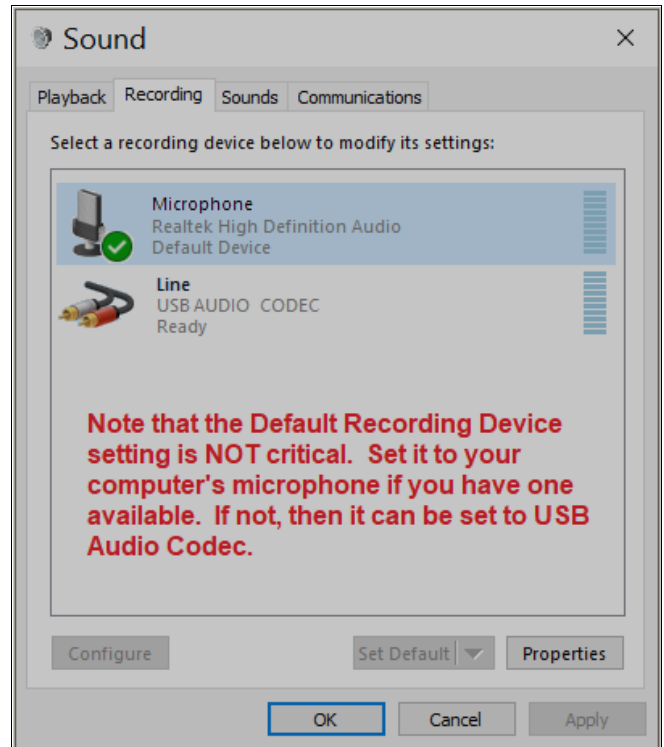

Figure 6 - Sound window Recording tab
- In the "Sound" window, select the "Recording" tab as shown below in Figure 6.
- Your computer's microphone should now have a green check mark next to it as shown in Figure 6.